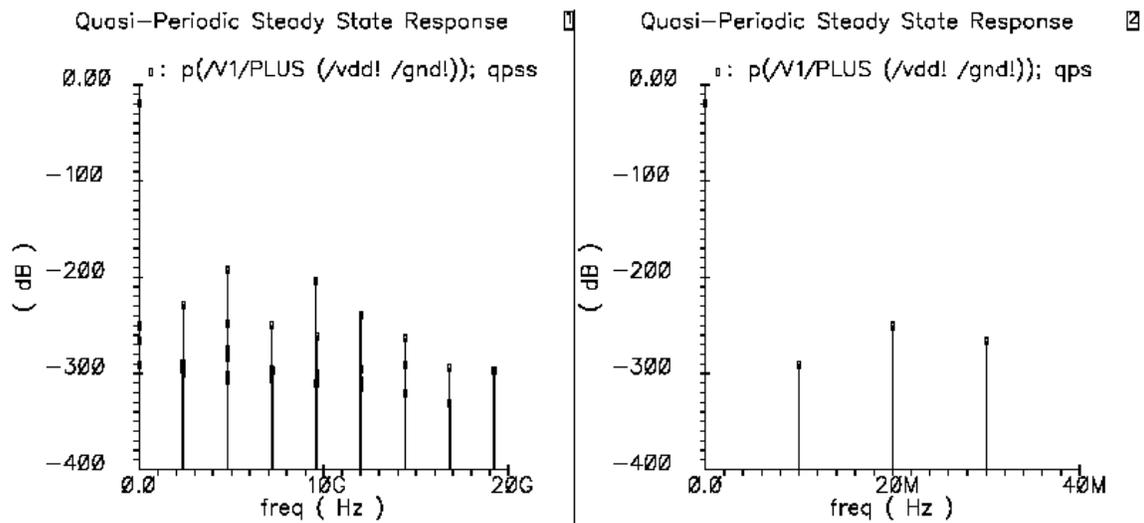

Fig 7: Power Spectrum at the Power Source
- *You will see the plot as shown in Fig7*